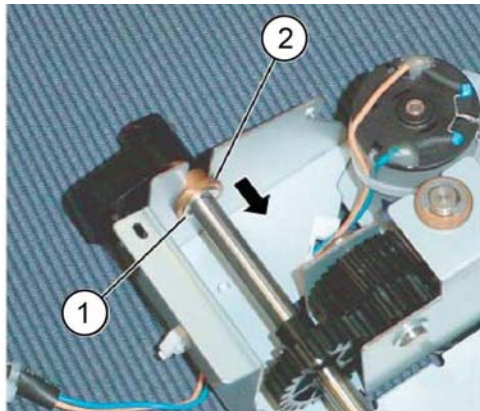

Figure 7 Preparation
11. Prepare to remove the stacker shaft assembly, Figure 7:
- Remove the E-clip (1).
- Move the bearing (2) in the direction of the arrow.